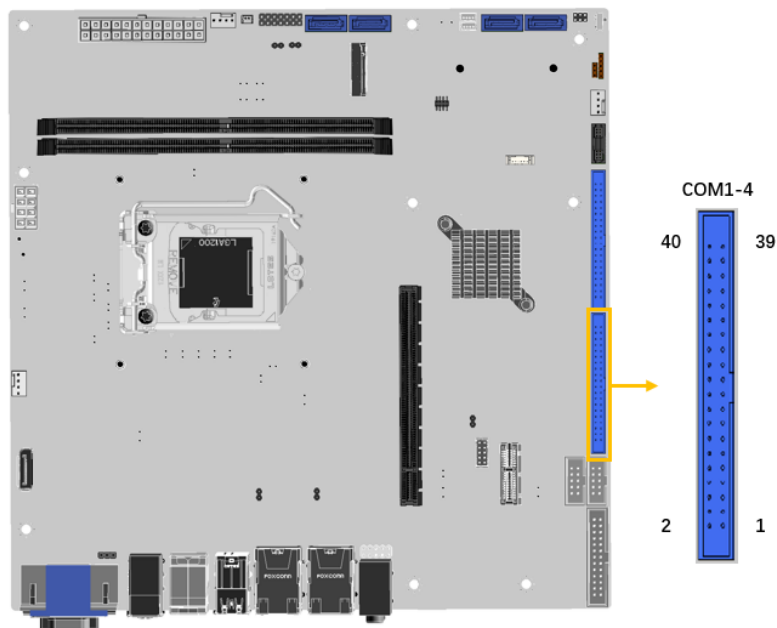

Figure 3-17: RS-232 Connector Location
- CN Location:** See **Figure 3-17**